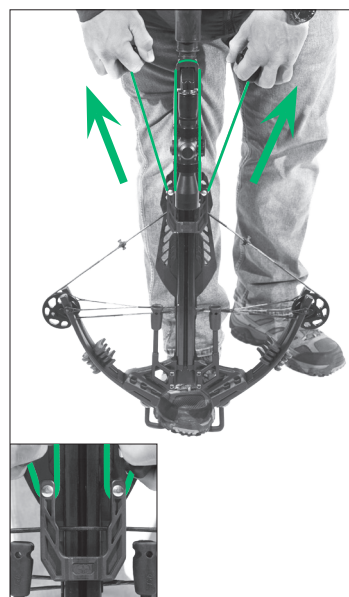

FIGURE 12
- 3c Place the center of the cocking rope in the rope groove. (Fig. 12 No. 22)
- 3d Place the cocking sled onto the crossbow string ensuring that the string is fully seated on the sled, then pull with even force. (Fig. 12)